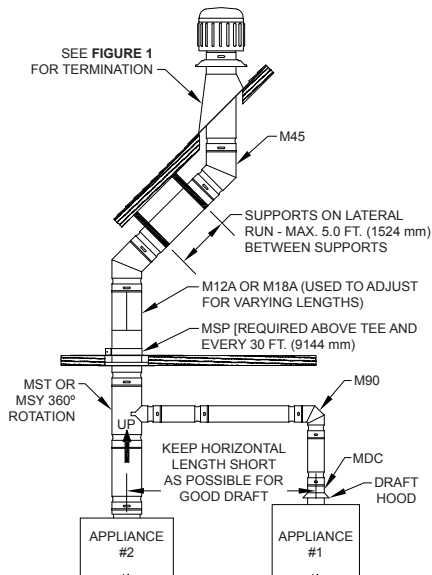

**FIGURE 3**
- Although it is not a preferred practice, there may be installations where B-Vent must run vertically-exterior to the building-and wall support is needed. A wall band (MH) or (MWB) is used by placing around the B-Vent, then fastening to the wall. Using a wall band assures that the clearance to combustibles is maintained (See **FIGURE 3**).